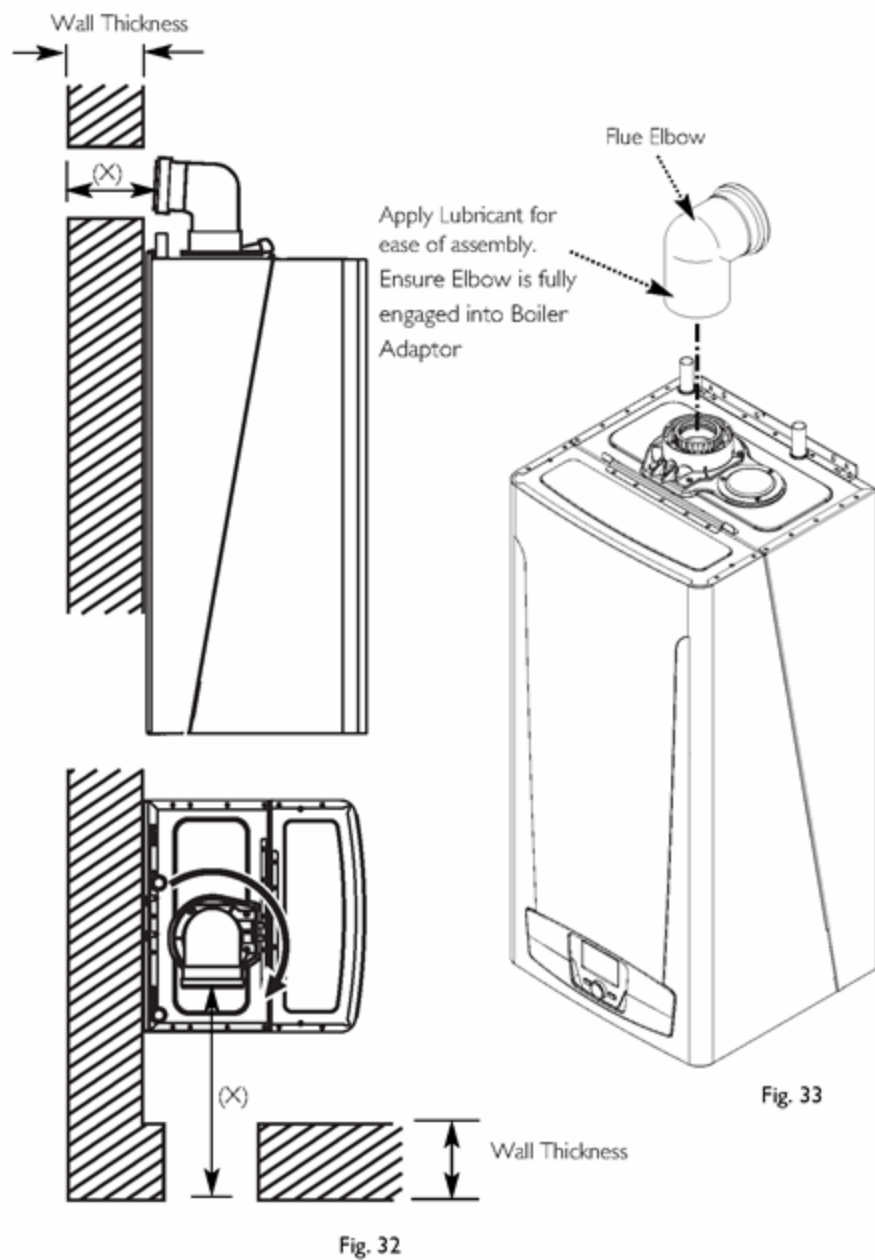

Fig. 32 & Fig. 33
4. Measure the distance from the outside wall face to the elbow. This dimension will be known as 'X' (Fig. 32).
5. If the distance from the flue elbow to the outside face of the wall ('X' in Fig. 32) is less than 250mm the Connection Assembly can be discarded and the Terminal Assembly cut and fitted directly into the elbow.
6. In instances where the dimension 'X' (Fig. 32) is between 250mm and 315mm it will be necessary to shorten the Terminal Assembly by careful cutting to accommodate walls of these thicknesses.